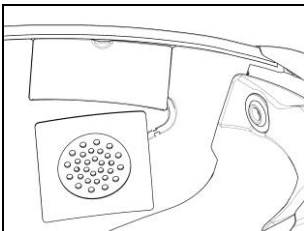

Fig. 10
- Position the left loudspeaker in its seat, inserting the cable in the special groove. If necessary, secure the earphone using the adhesive supplied as standard equipment (Fig. 10).